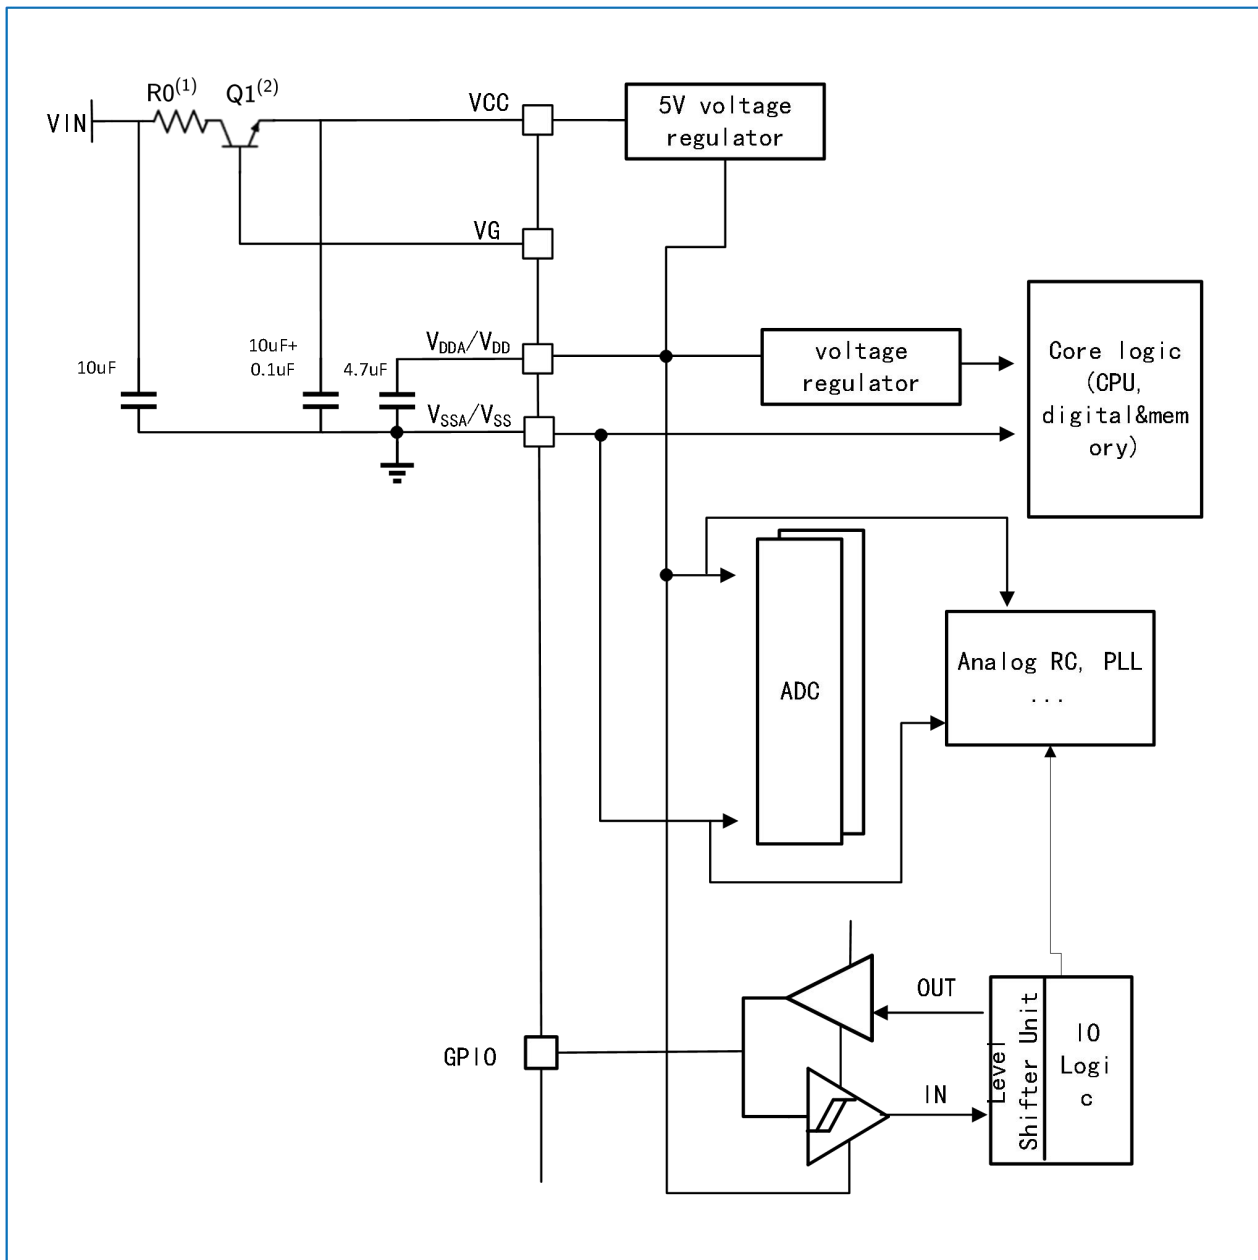

Figure 6-1 Power Diagram
Recommendations for PCB design for ADC sampling: power decoupling should be carried out according to Figure 6-1. To ensure the accuracy of ADC conversion, it is recommended to use ceramic capacitors with a capacitance of 10 nF and place them as close to the chip as possible.
- (1). When V_{IN} is greater than 12V, the heat dissipation of Q1 can be optimized by adjusting the resistance of R0.
- (2). When $V_{IN} \leq 12V$, V_{IN} and V_{CC} can be directly short-circuited, and Q1 and R0 may not be required. When $V_{IN} > 12V$, it is recommended to retain Q1 to improve power stability.
- (3). When the power supply voltage is within 30V, the reference circuit in Figure 6-1 can be used. If the power supply voltage is above 30V, an additional 12V power supply is required to supply V_{CC} .